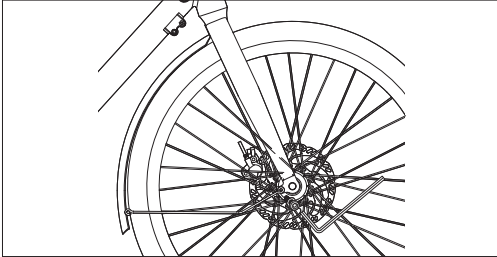

Figure 5-2
- After fastening the upper bracket, use a 4 mm Allen key to remove the 2 screws at the bottom of the front fork. Then, align the legs of the front fender with the installation holes at the bottom of the front fork, as shown in **Figures 5-2 and 5-3**, and then re-tighten the screws to about 3-5 N·m.